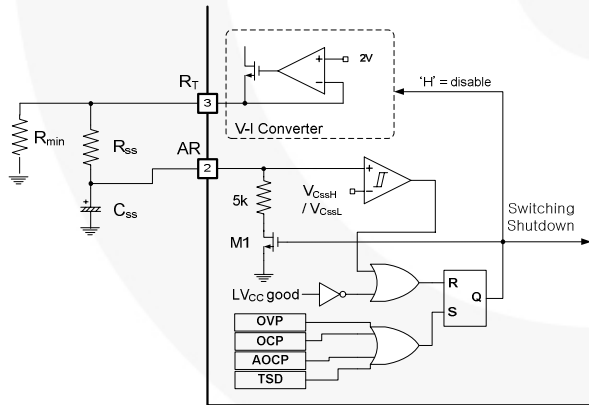
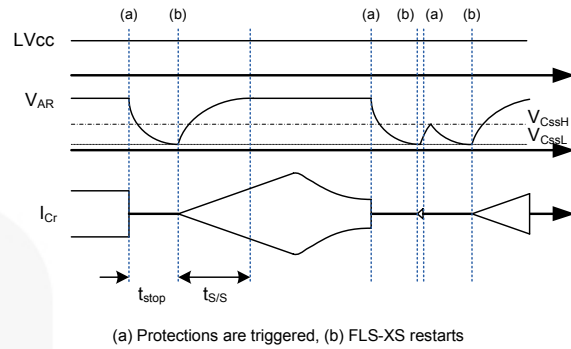

Figure 20. Internal Block of AR Pin
Figure 21. Self Auto-Restart Operation
**4. Self Auto-Restart:** The FLS-XS series can restart automatically even when any built-in protections are triggered with external supply voltage. As can be seen in Figure 20 and Figure 21, once a protection is triggered, the M1 switch turns on and the V-I converter is disabled.  $C_{SS}$  starts to discharge until  $V_{C_{SS}}$  across  $C_{SS}$  drops to  $V_{C_{SS}L}$ . Then, all protections are reset, M1 turns off, and the V-I converter resumes. The FLS-XS starts switching again with soft-start. If the protections occur while  $V_{C_{SS}}$  is under  $V_{C_{SS}L}$  and  $V_{C_{SS}H}$  level, the switching is terminated immediately,  $V_{C_{SS}}$  continues to increase until reaching  $V_{C_{SS}H}$ , then  $C_{SS}$  is discharged by M1.